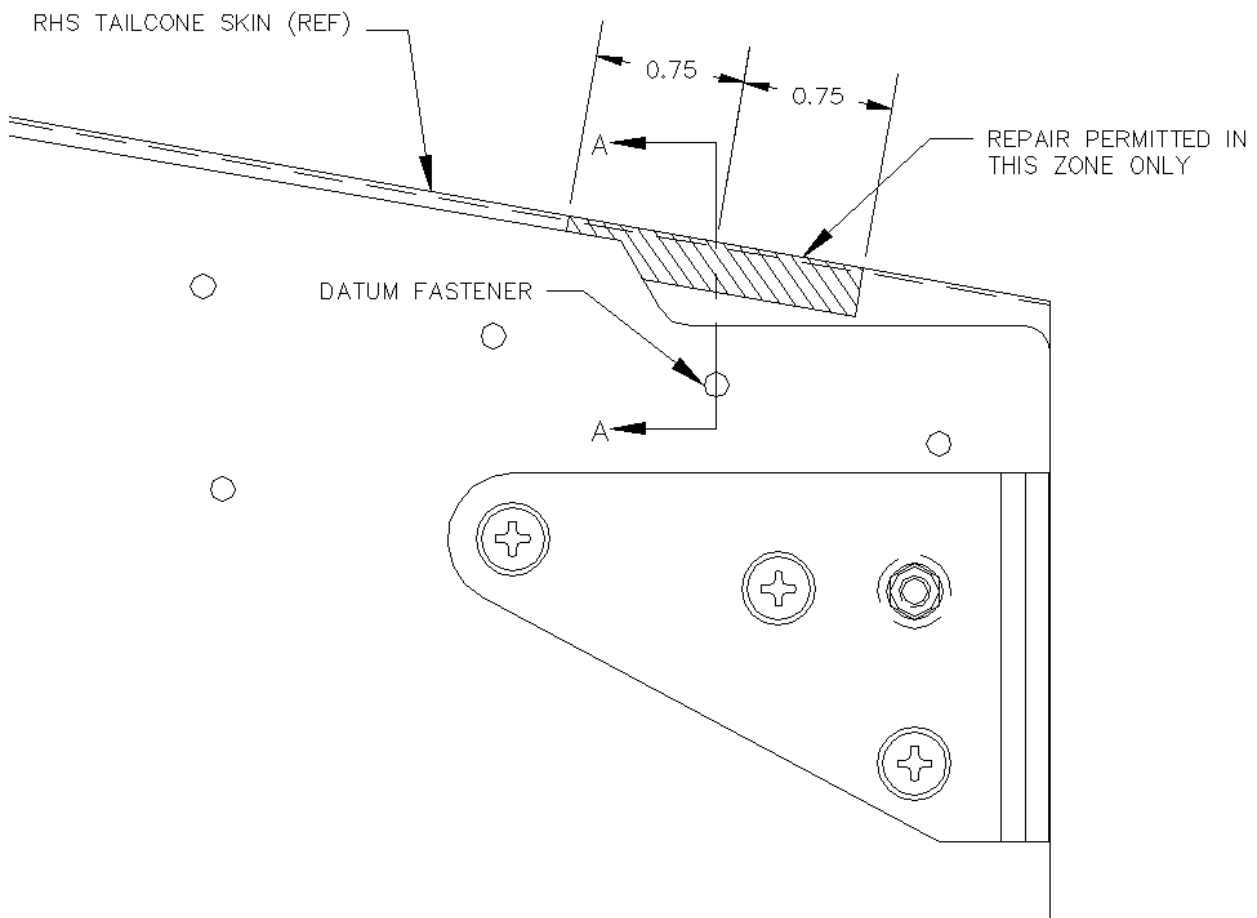

Figure 7 – Repair Zone
- is within the 1.5" (38.1mm) long repair zone shown in Figure 7; and